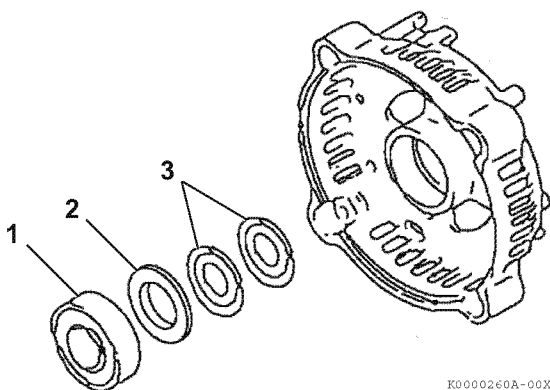

Figure 11-11
11. If it is necessary to replace the bearing (**Figure 11-11, (1)**) in the rear frame housing, use a puller to remove. Discard the bearing. Remove the bearing cover (**Figure 11-11, (2)**) and two thrust washers (**Figure 11-11, (3)**).